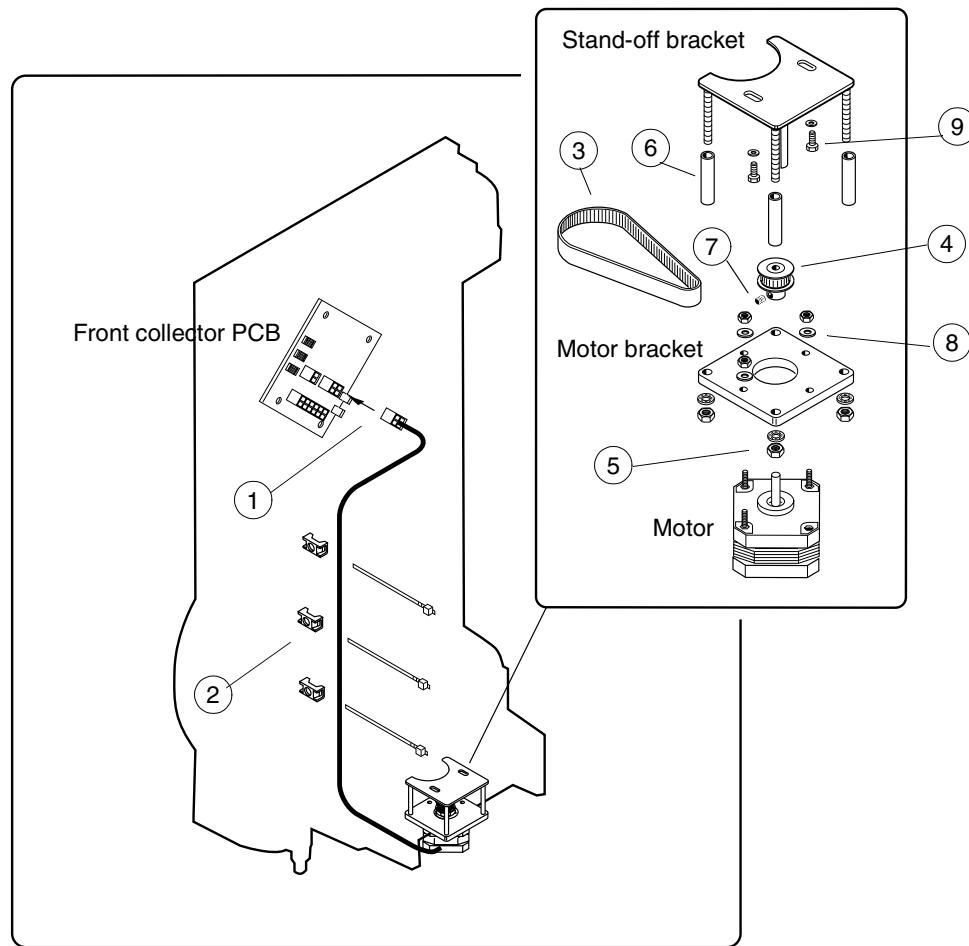

Figure H.38
- d) Disconnect the Compression motor cable from the Front collector PCB (Fig. H.38, 1).
- e) Open the necessary cable bindings (Fig. H.38, 2) and route the cable carefully from the C-arm center frame openings. Make sure that the wires do not loosen from the connector pins.
- f) Thread the drive belt (Fig. H.38, 3) from the Drive wheel (Fig. H.38, 4) and from the Worm-screw belt wheel.
- g) Unscrew the four nuts that hold the Stand-off bracket in the Motor bracket (Fig. H.38, 5).
- h) Remove the Motor bracket and the Motor from the Stand-off bracket. Make sure that the spacers (Fig. H.38, 6) do not fall to the cassette shelf casting. Remove the spacers.
- i) Unscrew the Motor belt drive wheel's screw (Fig. H.38, 7) with an Allen key and remove the drive wheel (Fig. H.38, 4).
- j) Unscrew the Compression motor holding nuts (Fig. H.38, 8) and remove the Motor.
- m) When needed, loosen the Motor stand-off bracket's screws (Fig. H.38, 9), adjust the bracket position and tighten the screws.